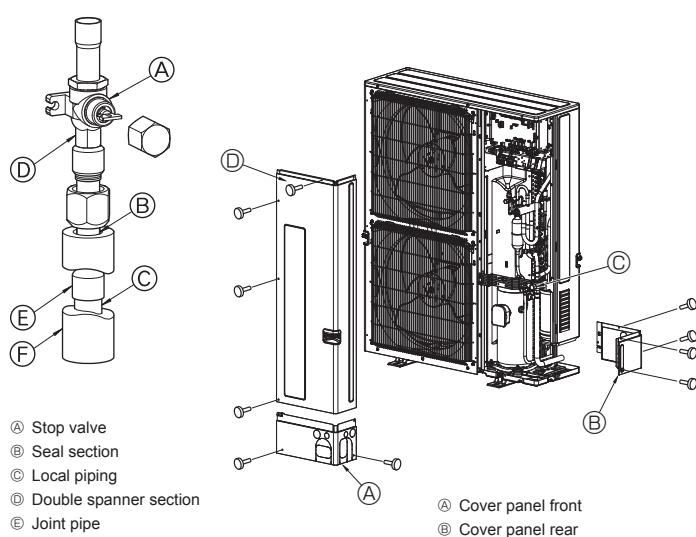

Fig. 4-3
③ Use the following procedure for connecting the gas-side piping. (Fig. 4-3)
- Braze the ② Joint pipe provided to the outdoor unit using locally procured brazing materials and ③ Local piping without oxygen.
- Connect the ④ Joint pipe to the gas-side Stop valve. Use 2 wrenches to tighten the flare nut.